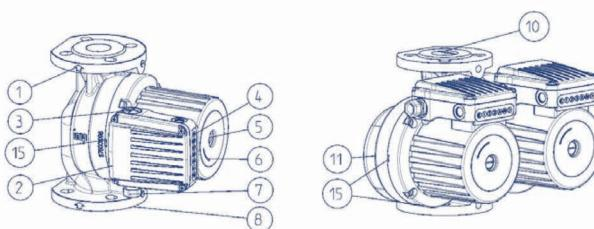
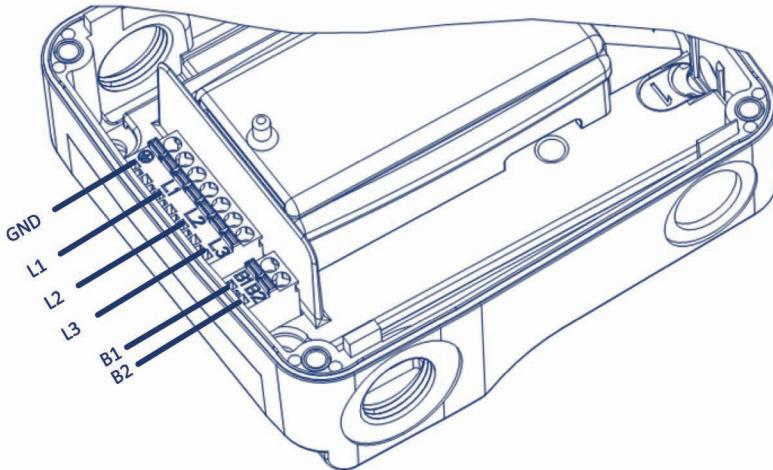

Figure 1 GHN basic II and GHND basic II
Figure 3: Electrical scheme
Desired head orientation can be achieved by rotating the pump head (allowed positions shown in figure 1). Pump head is mounted to hydraulic casting with four screws. By unscrewing those, the pump head can then be turned.
The connecting wire has to be connected over a cable entry M20 (Fig. 1 - POS. 7).
Electrical connections of the pump must be carried out in accordance with the wiring diagram (Fig. 3), attached on the bottom of motor cover. Before doing that unwind the upper cover (Fig. 1 - POS. 2). By the standard IEC 60446 it is recommended to use the following electrical wiring order:
Each pump is able to cover the areas of three hydraulic characteristics. To achieve this, it has an inbuilt electric motor with three different speeds. For achieving the selected characteristics or speeds ① ② ③, the pump has a speed selector (Fig. 5). To change the speed, the upper cover has to be removed (Fig. 1 - POS. 2), then replace the speed selector to the desired speed.
Switch off the pump, close the valve on both pressure and suction sides of the pump, unscrew the vent for deaeration, place the screwdriver (Fig. 1 - POS. 5) in the notch on the shaft and twist as longer as friction forces allow. Then screw the vent for deaeration.